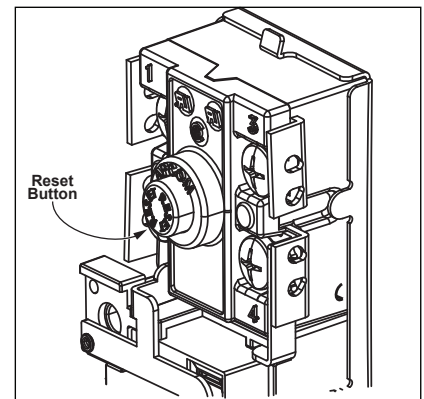

Figure 26 - Emergency Cut Off (ECO) Button
- Press the red ECO reset button. See Figure 26.